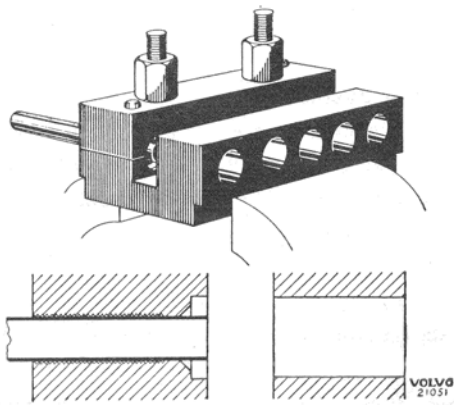

Fig. 26. Flanging the brake pipeline
2. Place tool SVO 2049 in a vice. Insert the pipe so far that its end comes flush with the clamp jaw as shown in Fig. 26. Tighten the nuts.